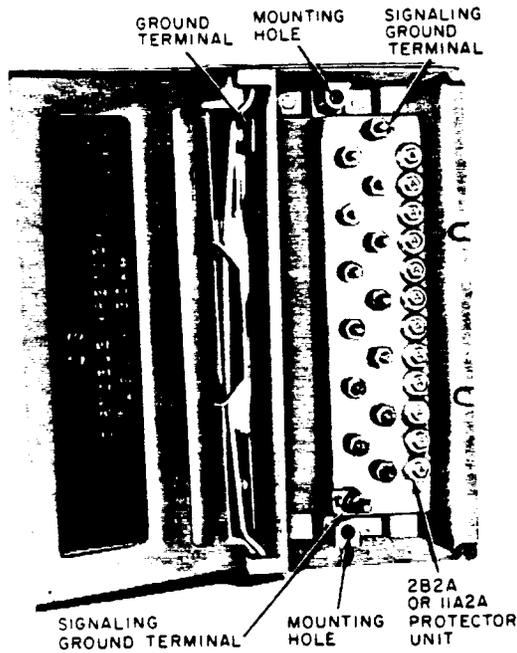

Figure 4—116C or 116E Protector
3.08 The 116C and 116E protectors (Figure 4) are housed in metal containers with hinged metal covers. The 10-gauge ground wire (Table B) is used to ground the 116C and 116E protectors. The 116C and 116E protectors are designed for outdoor or indoor use and generally used with 6-pair multiple aerial service wire.